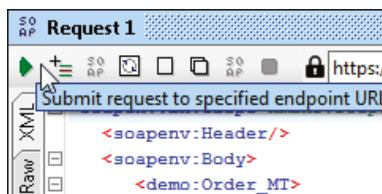

Figure 2.42 Clicking the Green Triangle Icon to Send the Message
6. To send the message, click on the green triangle icon (at top left corner of Figure 2.42; tooltip **Submit request to specified endpoint URL**), or press **Alt**+**Enter**.